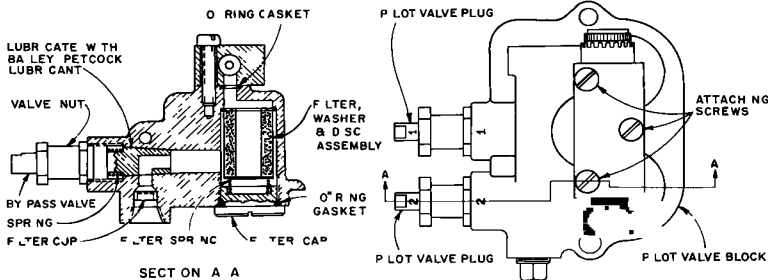

FIGURE 12 Positioner Pilot Valve and Pilot Valve Block
- 2 Remove pilot valve by removing attaching screws (Figure 12)
- 2 Once each year or whenever Positioner supply or bypass valves begin to show signs of sticking, remove valve and lubricate with Bailey Petroleum Lubricant (specify Part No 19987 1 when ordering). To remove valve, leave handle in present position and turn valve nut (Figure 12) out of pilot valve body.
3 Once each year check filters in dirty valve body (Figure 12) and replace if dirty (note that filters are included as added protection and are not a substitute for the required clean air supply)